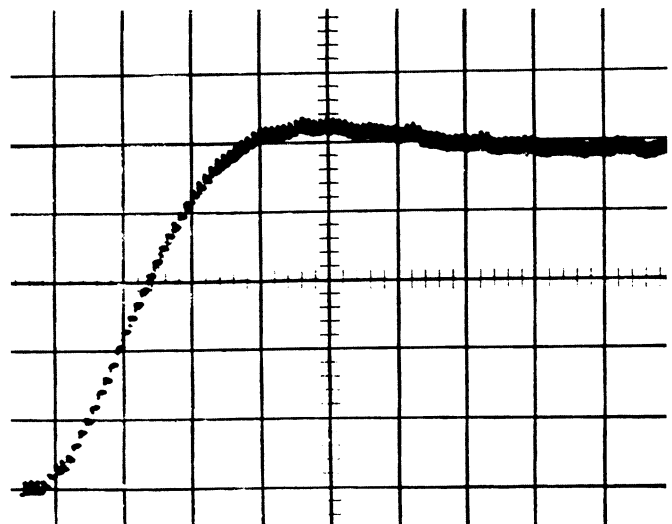

Figure 4-5. Typical 10-90% Rise Time on  $100\text{V}$  Range
- Set the DC calibrator to output +1V. The output of the Model 262 should be + $100\mu\text{V}$ . As the DC calibrator is set to output 1V observe the Model 155 10-90% rise time on the oscilloscope. The rise time must be less than one second and typically is less than 0.5 seconds. Figure 4-5 shows a typical rise time of the Model 155 on the  $100\text{V}$  range.